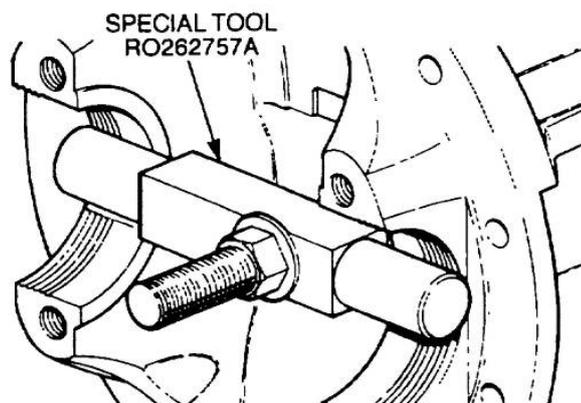

Figure 252 Removal of the Pinion Shaft Bearing Cups
- f. Using special tool R0262757A, remove the inner bearing cup from the differential carrier (Figure 252). Using a suitable drift, remove the outer bearing cup.